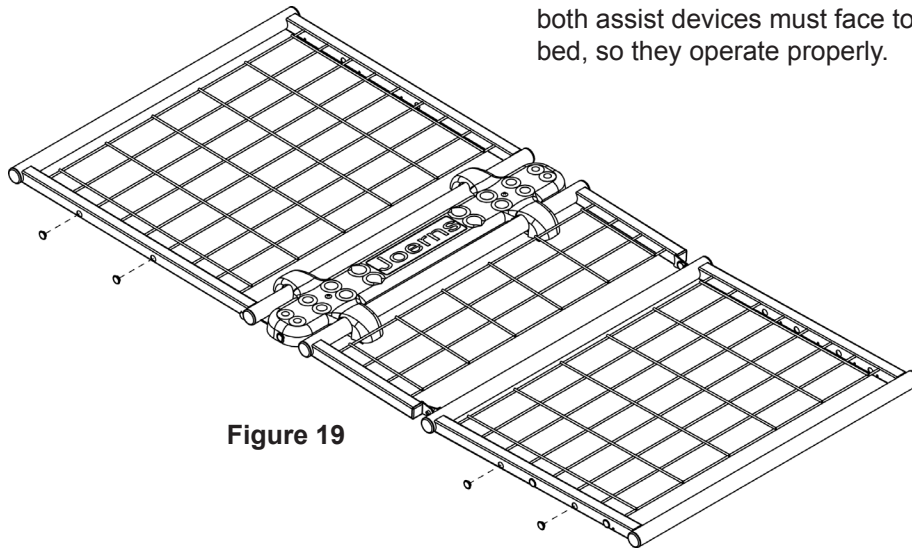
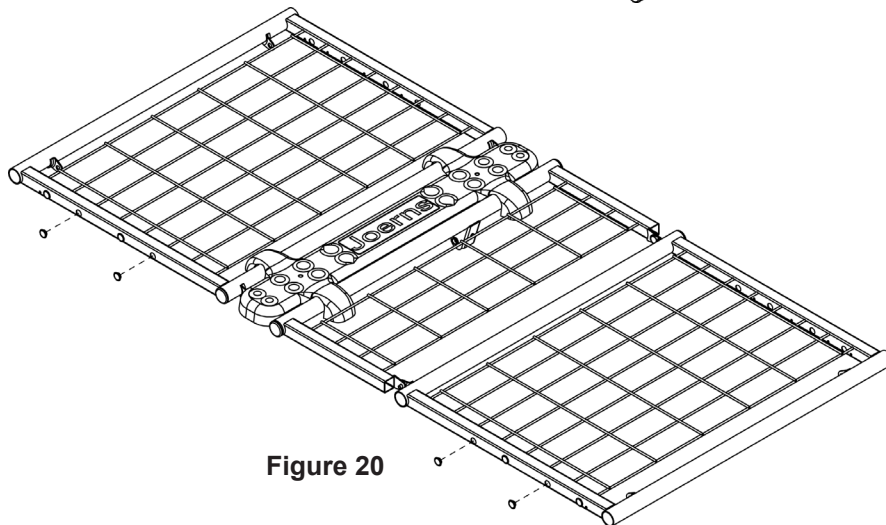

Figure 19
Figure 20
1. Remove plugs from holes as shown in Figure 19 for 80" bed and Figure 20 for 76" bed.